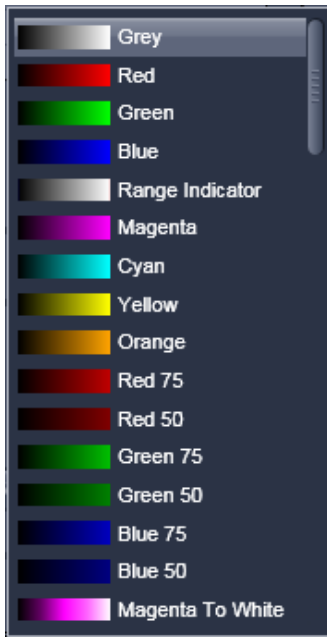

Fig. 5-59 Channel color selection
- Activate channel 1 via the check box. You may want to assign a different color to the channel which will be taken over for the initial display of the image. Click the channels icon to open the color table and select the desired color (Fig. 5-59).